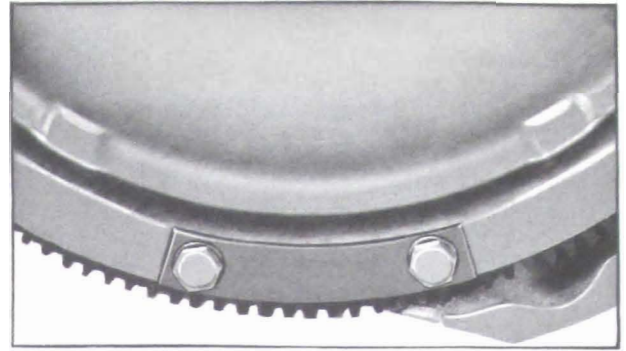

Figure 2-48—Installation of Balance Weight
2. Install one balance weight No. 1178109 (.060" thick) under the head of two converter pump cover bolts, and tighten bolts to 25-30 ft. lbs. torque. See Figure 2-48.